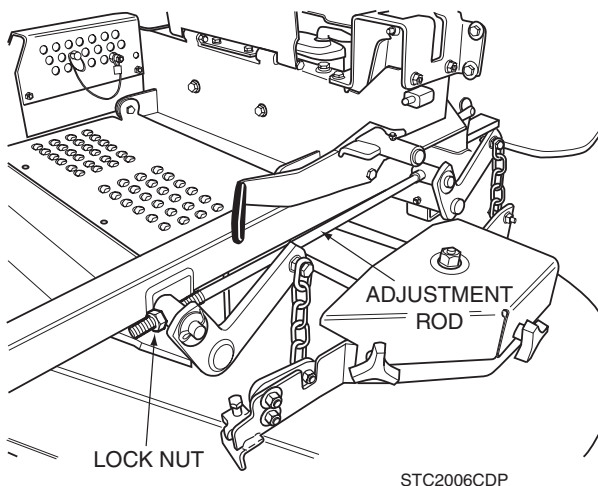

Figure 6-5. Cutter Deck Level Adjustment
1. Loosen the jam nut on both adjusting rods. See Figure 6-5.